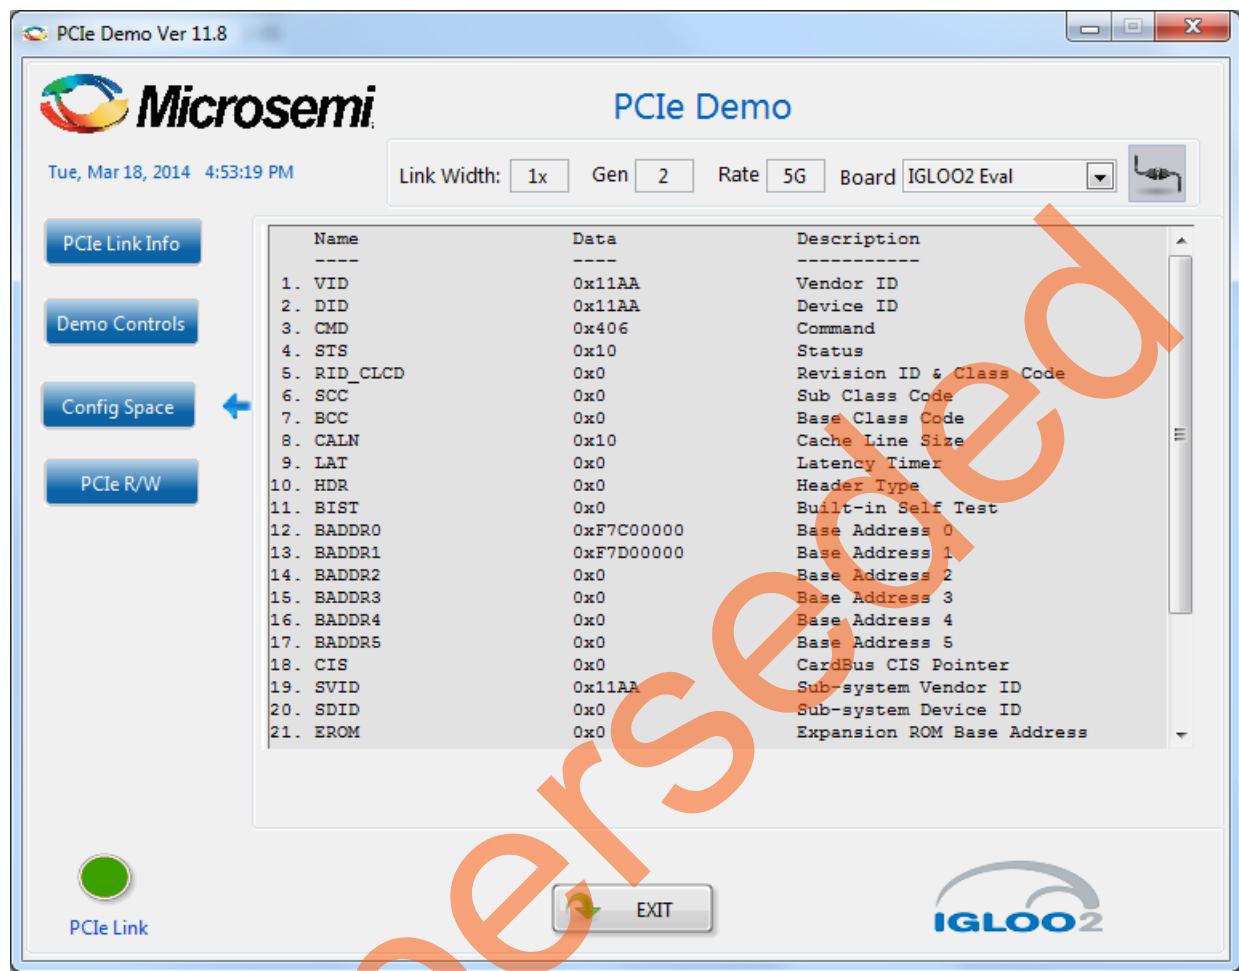

Figure 59 • Configuration Space
12. Click **Config Space** to read details about the PCIe configuration space. Figure 59 shows the PCIe configuration space.